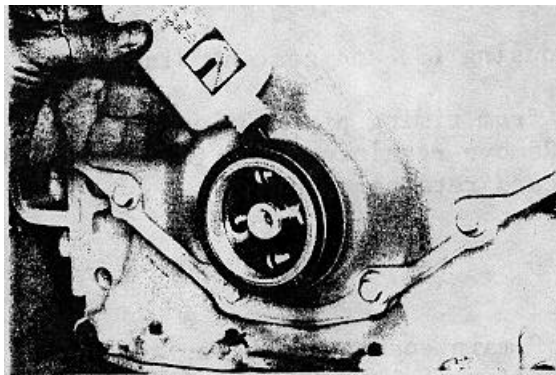

FIGURE 3-53. Coating Seal with Loctite.
- h. Coat the O.D. of the seal with Loctite 277. (FIGURE 3-53)